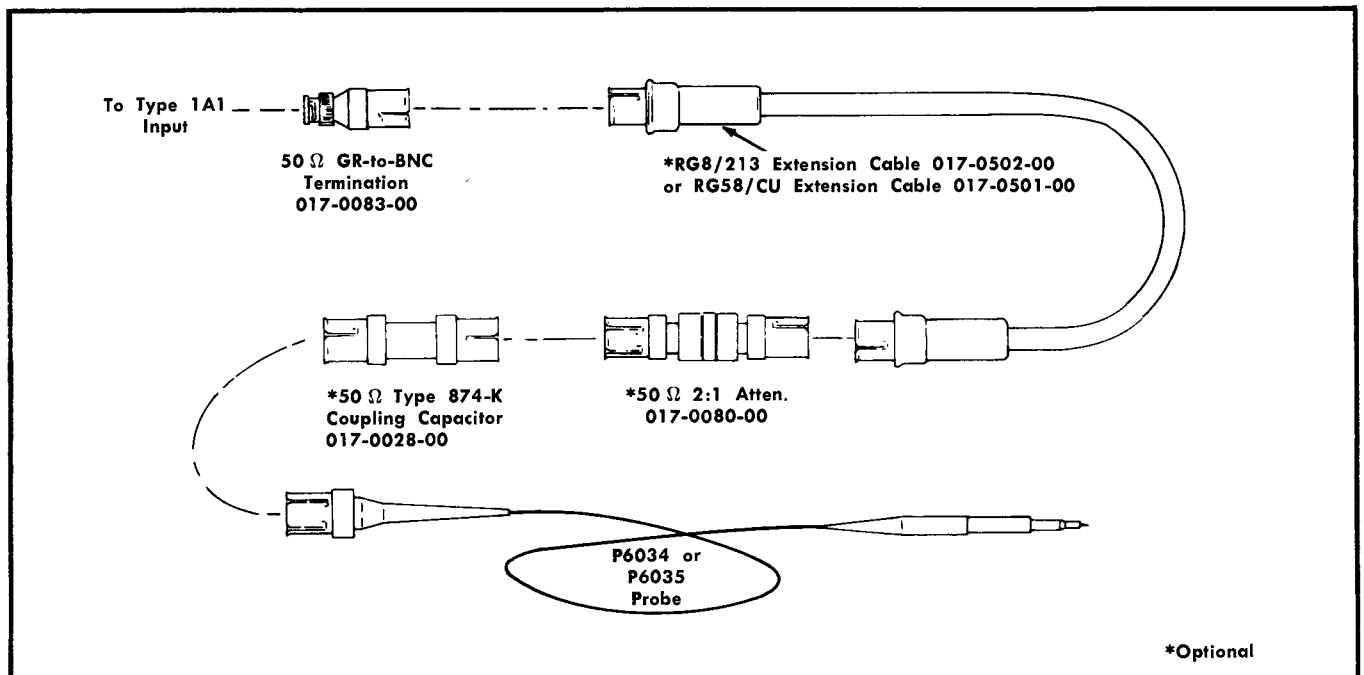

Fig. 2-3. Recommended component sequence when using the P6034 or P6035 probe. See Table 2-1.
Either of the channels can be used independently by setting the MODE switch to the channel desired. Connect the signal to be observed to the appropriate input connector. Table 2-1 lists several methods for applying the signal to the Type 1A1. Fig. 2-3 shows a component-sequence illustration for Method 8 outlined in Table 2-1. Fig. 2-4 shows the input impedance vs frequency curves for the Type 1A1 to show that capacitive reactance ( $X_c$ ) and resistance (R) decrease as frequency increases. This effect increases loading on the circuit under test as frequency increases.